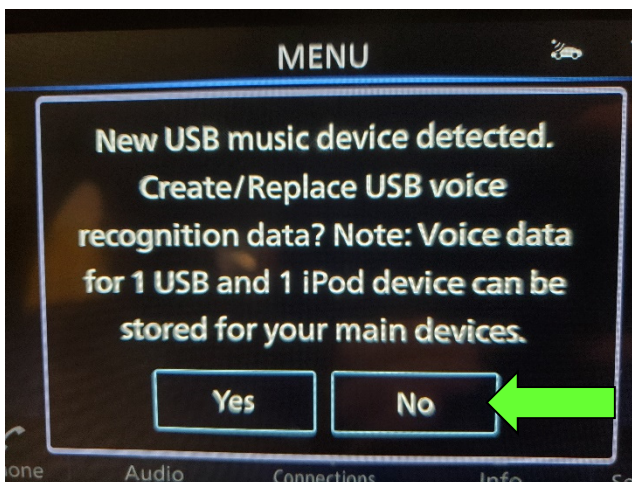

Figure 15
- If the screen in Figure 15 is shown, select **No**.